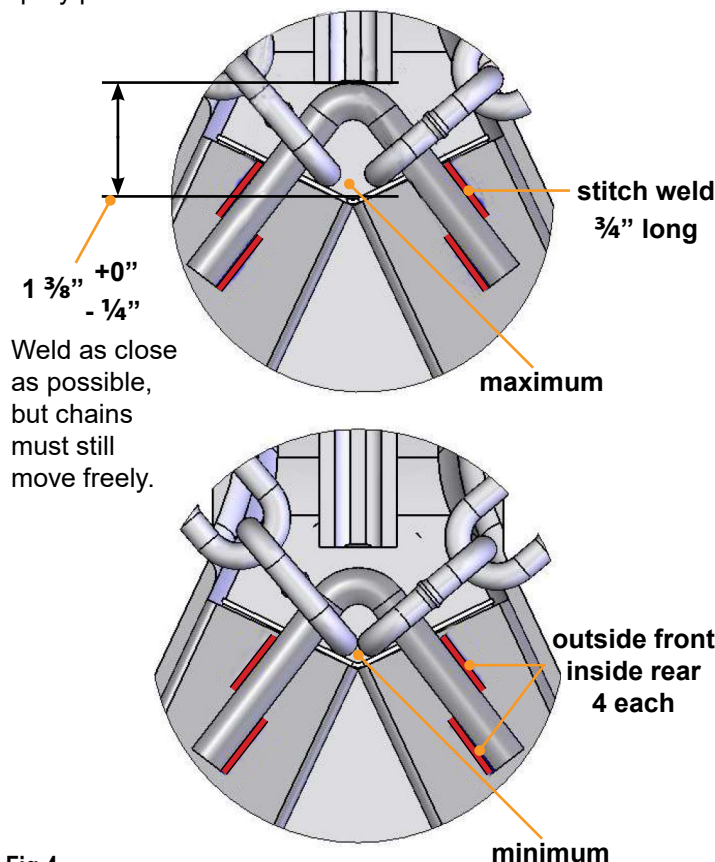
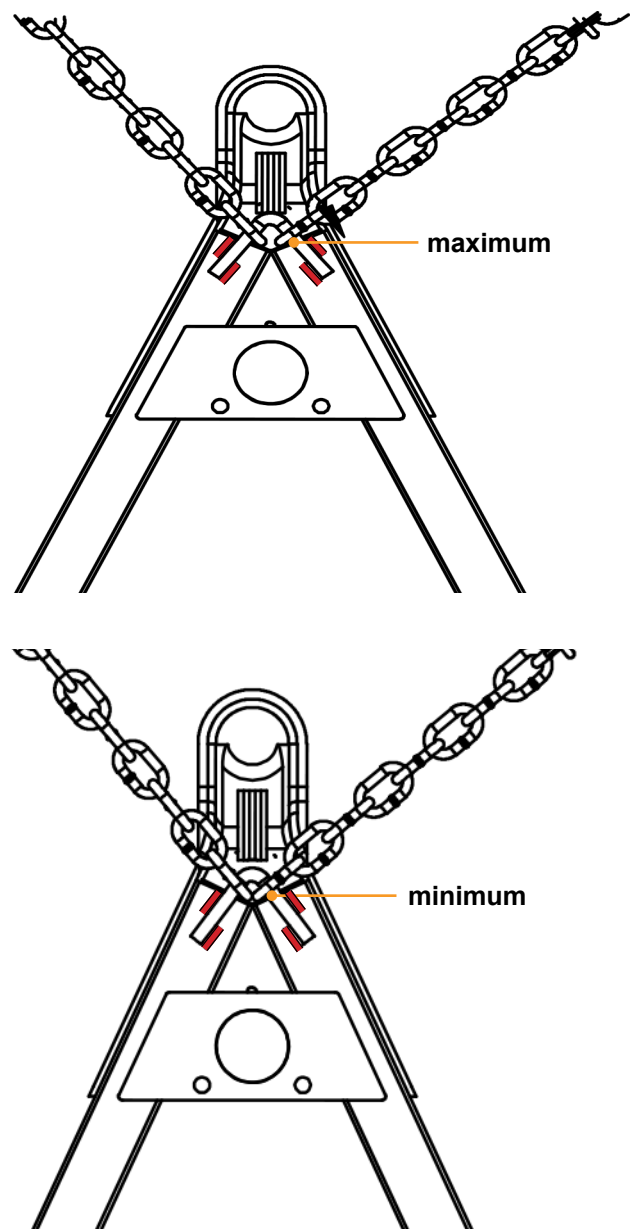

Fig.4
Fig.5
5. Center the chain elbow and safety chain assembly under the A-frame coupler so that the ends of the chain elbow are touching the ends of the two A-frame tubes (Fig.4). The elbow should be pointing away from the trailer.
NOTE: The outside point of the elbow bend **MUST** measure $1\frac{3}{8}"$ maximum to $1\frac{1}{8}"$ minimum from the A-frame (Fig.4).
6. Stitch weld each end of the chain elbow to the A-frame tubes (Figs.4 and 5). Make certain to weld both the inside and outside of the chain elbow (Fig.5 and 6).
7. Test the movement ability of the safety chains to make sure they are able to move freely (Fig.5).